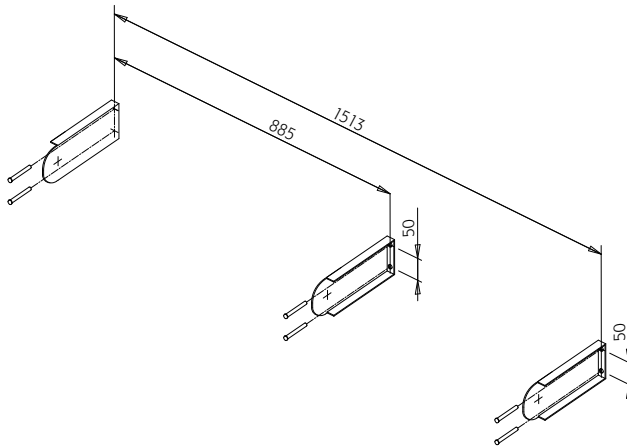

Fig. 17
3. drill the holes for the S8 plugs as shown in the figures (Figs. 17 and 20);